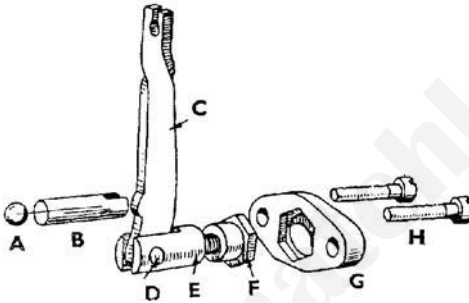

FIG. 72. CLUTCH OPERATING-LEVER ADJUSTMENT (1945-51 MODELS)
1945-51 Burman Clutch (Minor Adjustment). If wear of the inserts is such that only a minor adjustment is called for, loosen the locking nut on the control-cable adjuster, which is screwed into the rear of the kickstarter housing. Then unscrew or screw up a few turns the cable adjuster, according to whether it is desired to decrease or increase respectively the effective length of the control cable. Decreasing the effective length of the cable does, of course, reduce the clearance (see Fig. 72) between the short steel plunger (B) and the nose of the operating lever (C). After making the required adjustment, retighten the locking nut on the cable adjuster.
1945-51 Burman Clutch (Major Adjustment). If wear of the Burman clutch inserts is such that it is impossible to obtain correct adjustment of the clutch operating-mechanism by means of the minor (cable) adjustment just described, a major adjustment is called for. This entails altering the effective position of the fulcrum pin (for the clutch-operating lever) in the kick-starter case. Referring to Fig. 72, to effect a major adjustment, first remove the two screws (H) with a suitable
KEY TO FIG. 72